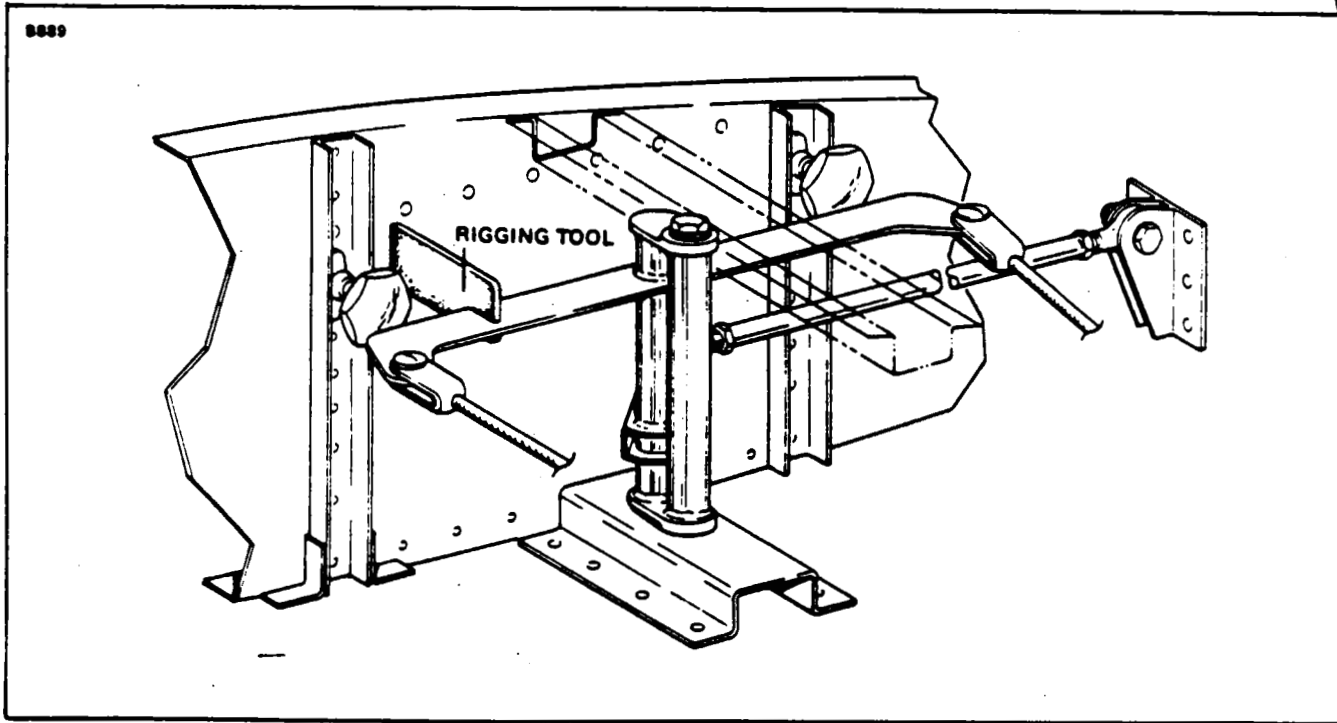

Figure 27-5. Bellcrank Rigging Tool
RIGGING AND ADJUSTMENT OF AILERON CONTROLS. (Refer to Figures 27-5 and 27-6.)
- B. Affix a bellcrank rigging tool, as shown in Figure 27-5, between the forward arm of each bellcrank and the adjacent rib. (This tool may be fabricated from dimensions given in Chapter 95.) The slotted end of the tool fits on the arm forward of and adjacent to the primary control cable end. The other end of the tool is positioned so that the side of the tool contacts the aft side of the bellcrank stop. The bellcrank must be moved to allow a snug fit of the tool between the bellcrank arm and rib. To do so, it may be necessary to loosen a primary control cable or the balance cable. Neutral position of the bellcranks is the position at which the forward and aft cable connection holes are an equal distance from the adjacent outboard wing rib.